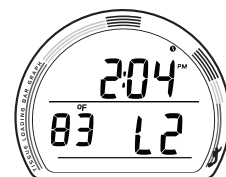

Fig. 10 - NORM/TECH
**NORM/TECH SURF ALT 2**, information includes (Fig. 10):